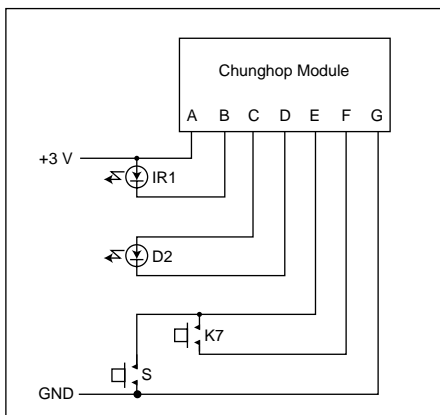

FIGURE 2
The wiring diagram for the completed module shows how to connect it to the few additional components used (see **Figure 2**). Holding the setup switch (S) closed initiates learning, the same as with the Chunghop remote. K7 was chosen as the transmit switch simply because the processor pins (8 and 9) for that particular switch are on the end of the IC where access for soldering wires is easiest. Other wiring arrangements using a different switch or several switches can be substituted for the one shown.